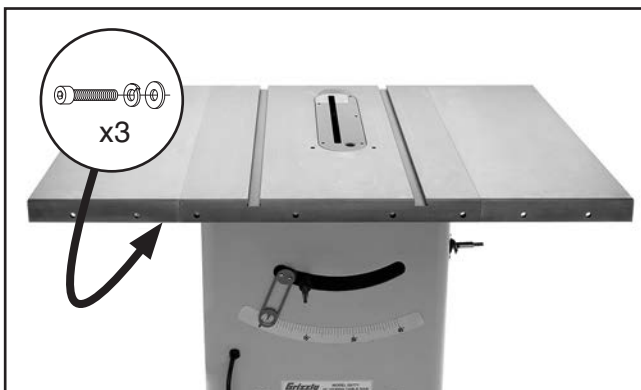

Figure 15. Extension wings installed.
2. While a helper holds extension wings in place, attach each wing flush with main table using (3) M10-1.5 x 30 cap screws, 10mm flat washers, and 10mm lock washers (see **Figure 15**).